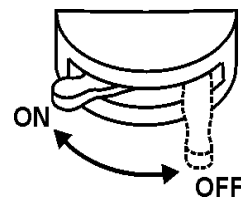

Figure 46. Battery ON/OFF Switch
5. Set the battery ON/OFF switch (Figure 46) to the ON position.